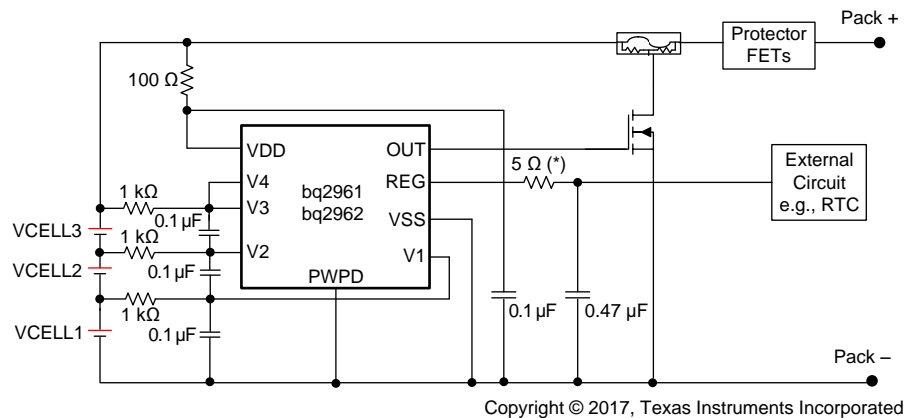
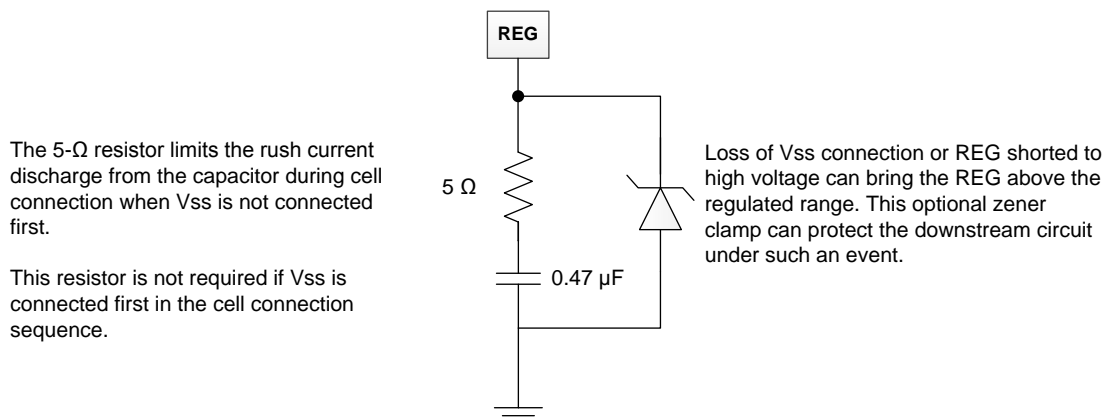

Figure 17. 3-Series bq2961 and bq2962 Schematic
Figure 18. 5-V Zener Diode
1. If VSS pin cannot be connected first, it is required to add a resistor of a minimum of 5 ohms to a maximum of 10 ohms (a 5-ohm resistor is used in the reference schematic, Figure 17) in series with the REG capacitor. When VSS is floating, the REG capacitor always charges up to the VDD voltage. When VSS is finally connected, the REG capacitor will be discharged. Adding a small resistor in series reduces the current strength and avoids any potential damage to the REG pin. The 5-ohm resistor can be placed in series with the REG connect circuit (as shown in Figure 17) or in series of the REG capacitor (as shown in Figure 18). Placing the resistor in series with the REG circuit results in a small drop of VREG (for example: max loading of 1 mA with a 5-ohm resistor will drop 5 mV on VREG), but such a connection can protect against rush current discharge from both REG capacitor or external filter capacitor connected to the REG pin. Placing the resistor in series with the REG capacitor is an alternative to avoid additional drop in VREG if the filter capacitor used by the external circuit is much smaller than the REG capacitor.
3. Cell should be connected to the lower V_n pin; the unused V_n pin should be shorted to the (V_{n-1}) pin. See Figure 17 for details.
4. A zener diode can be added to the REG pin to VSS as shown in Figure 18. This is recommended to protect the circuit connected to the REG pin if floating VSS in the field is a risk concern. When VSS is floating (during cell connection when VSS is not connected first or in system fault with BAT– wire broken), the REG voltage always pulls up to VDD. In a 4-S configuration, the REG voltage can reach approximately 16 V with VSS floating. Adding a zener diode clamps the REG voltage to a safe level for the external circuits connected to the REG pin. Having the zener diode can also protect the external circuits if REG pin is shorted to OUT pin or any other high-voltage output terminal. If a zener diode is used, TI recommends putting the diode on the battery side with the bq296xxx device to allow protection on both the REG pin as well as the circuit connected to REG under floating VSS condition. The resistor in series with the REG pin is not required in this case.